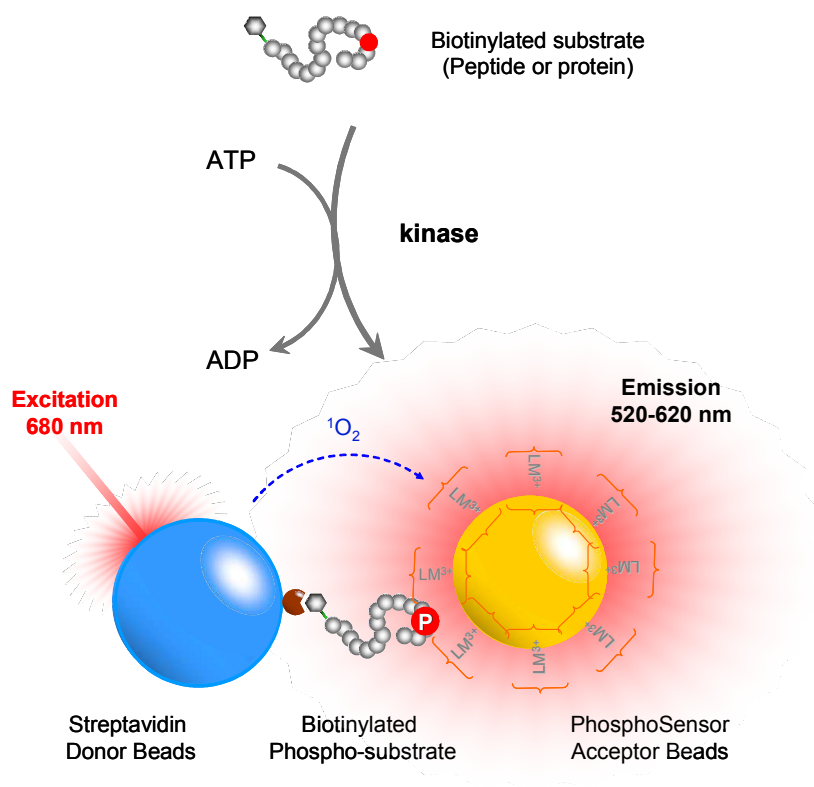

Figure 1. Illustration of the detection of a phosphorylated peptide using the AlphaScreen PhosphoSensor Acceptor beads. Legend: LM³⁺ = Lewis Metal Chelate.
The principle of the assay is illustrated in Figure 1. In this assay, the kinase driven addition of a phosphate group to a biotinylated substrate will result in the simultaneous capture of the phosphorylated substrate by the PhosphoSensor Acceptor (coated with a Lewis Metal Chelate) and the streptavidin (SA) Donor beads. Upon laser excitation of the Donor beads, the proximity of the Donor and PhosphoSensor Acceptor beads will generate an AlphaScreen signal between 520 and 620 nm. In the absence of phosphorylation, no signal should be observed. Since the Acceptor beads allow for the detection of phosphates, the activity of phosphatases can also be monitored using these beads.